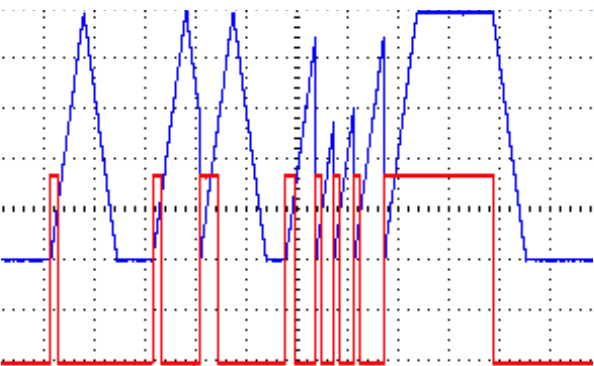

Figure 5: Asynchronous trigger
- In Sync mode ("normal" mode), turning Cycle on starts outputting an envelope from a point such that the envelope will end on the next expected ping clock (think of it as if the envelope has always been running in sync to the ping clock, and turning on Cycle un-mutes it). See *Figure 5*.